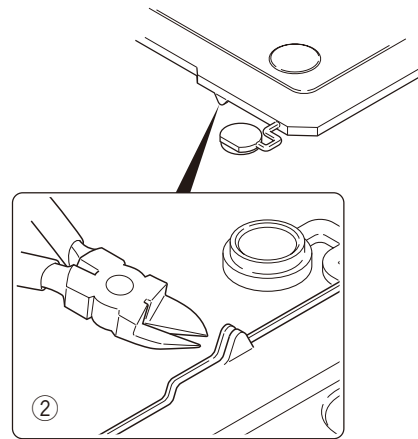

Fig. 6-3
Note: If the GPS receiver is installed, cut the base of the convex tab of the top packing with a pair of nippers, or similar tool. (Fig. 6-3 ②)